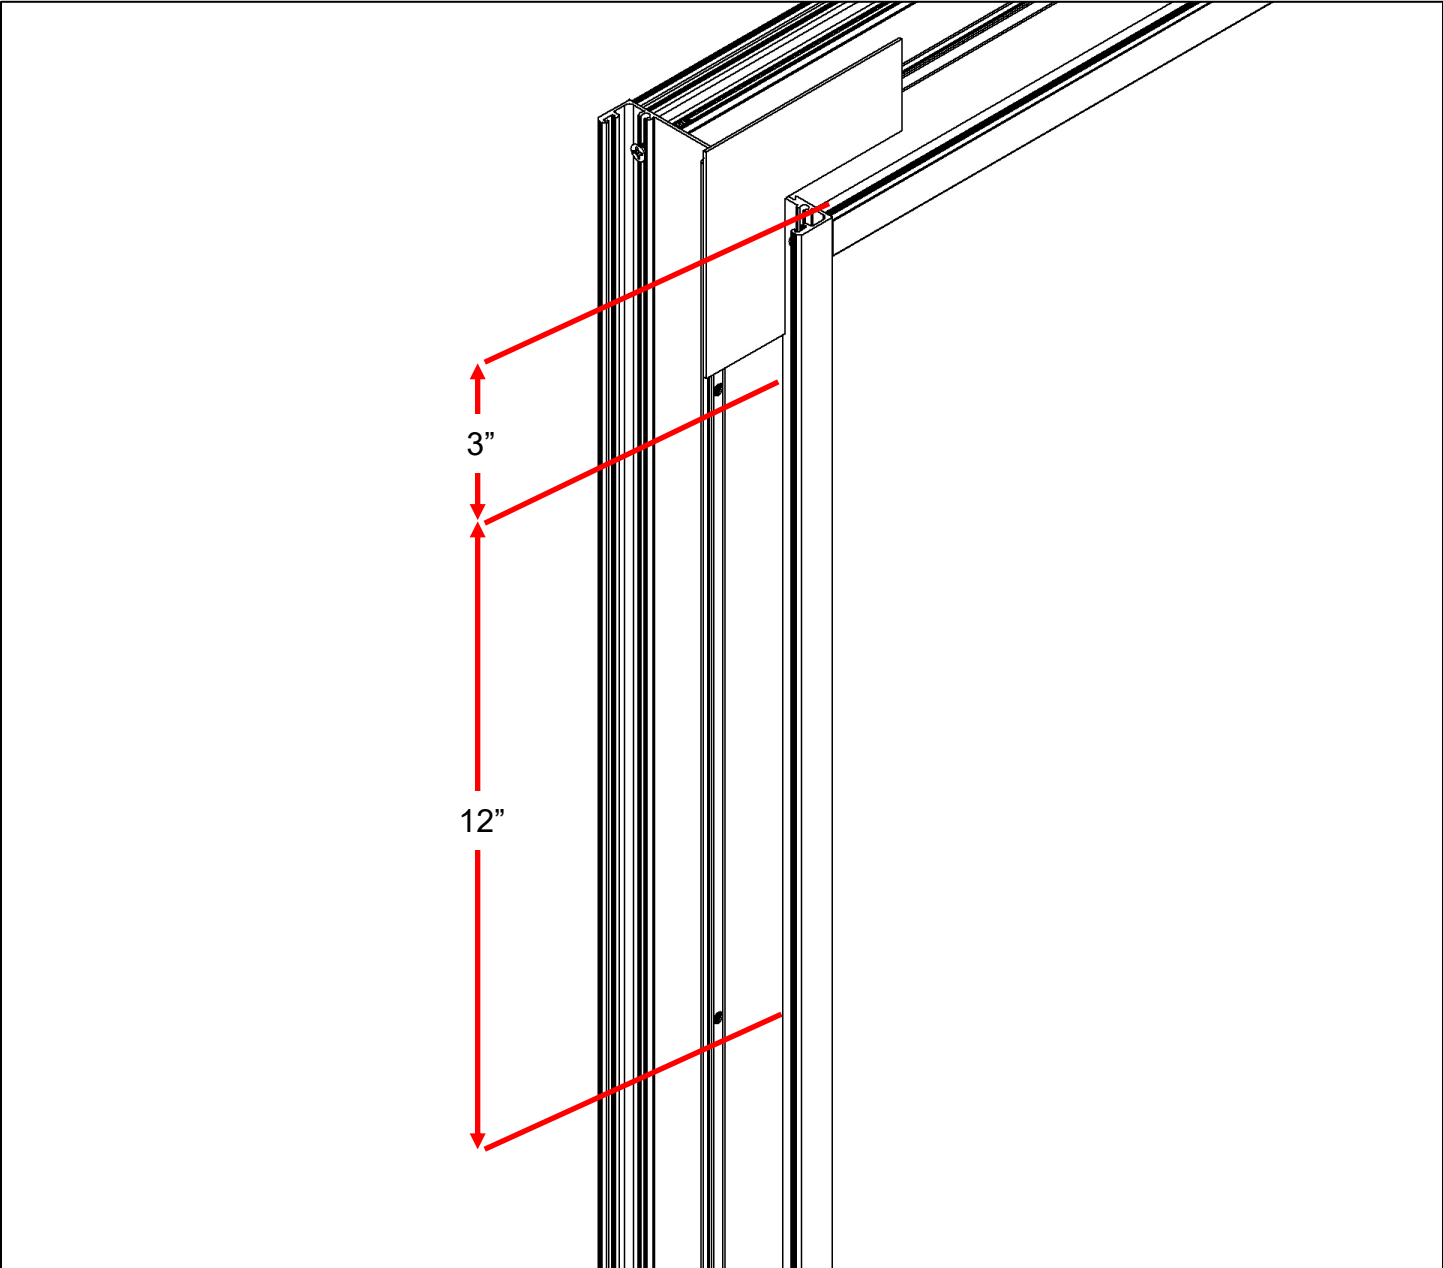

Fig. 5
8. Secure the nail fin flange to the structure, the first screws should be 3" from the corner and 12" center to center (see Fig. 5). Shim the window at all fastener locations. Verify plumb and level.